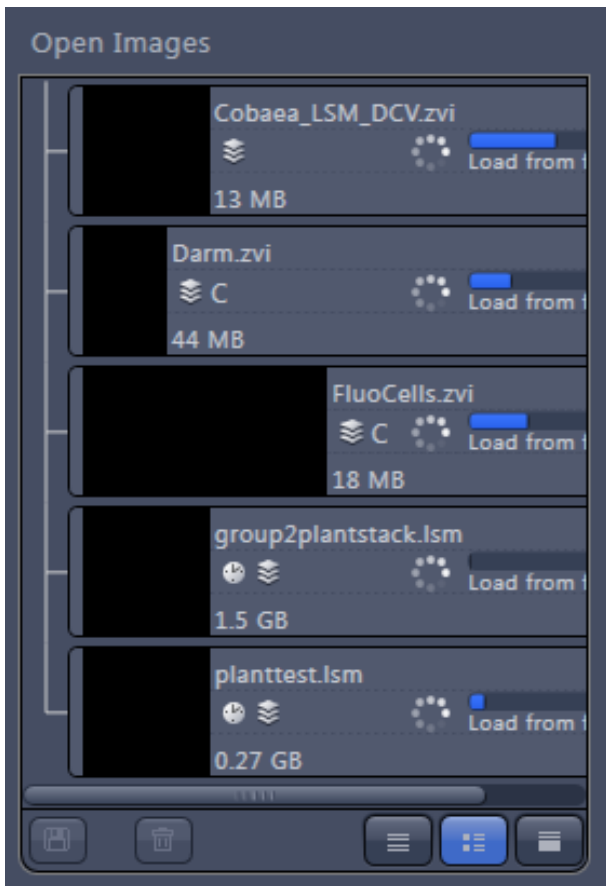

Fig. 7-12 Image progress bar
- A progress bar (Fig. 7-12) is shown for each image facilitating the overview if e.g. many processing function are running at the same time.